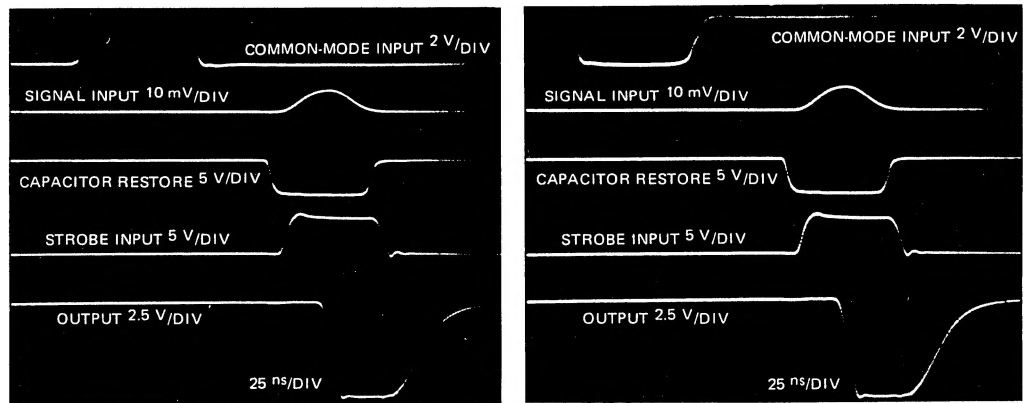

FIGURE 22 – DIFFERENTIAL MODE CHARACTERISTICS
- $t_{DMR \pm}$ The minimum time between the 50% level of the trailing edge of a + or - 1 volt differential-mode signal ($t_r = t_f \leq 15$ ns) and the 50% level of the leading edge of a 5 mV input pulse when the capacitor restore and strobe inputs are used in a normal manner as shown in Figure 22